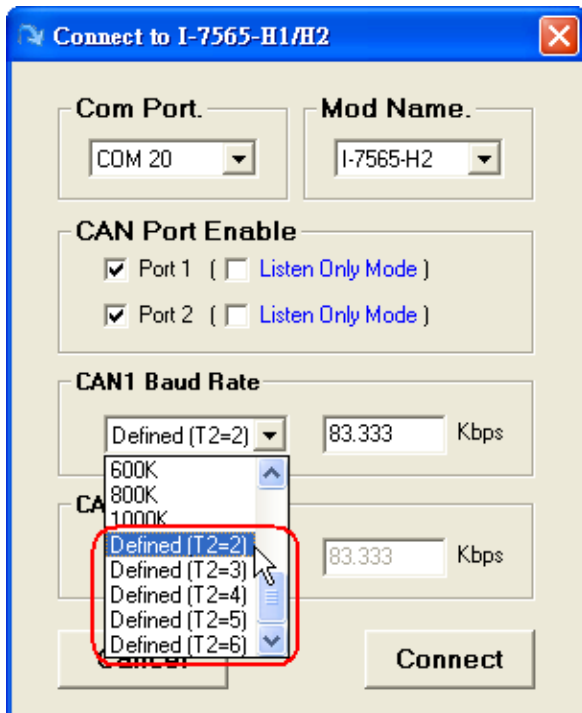

Figure 14-1 Adjust "T2" value
- (1) Adjustable Bit-Timing parameter, Tseg2 value, of CAN baud rate like Figure 14-1.